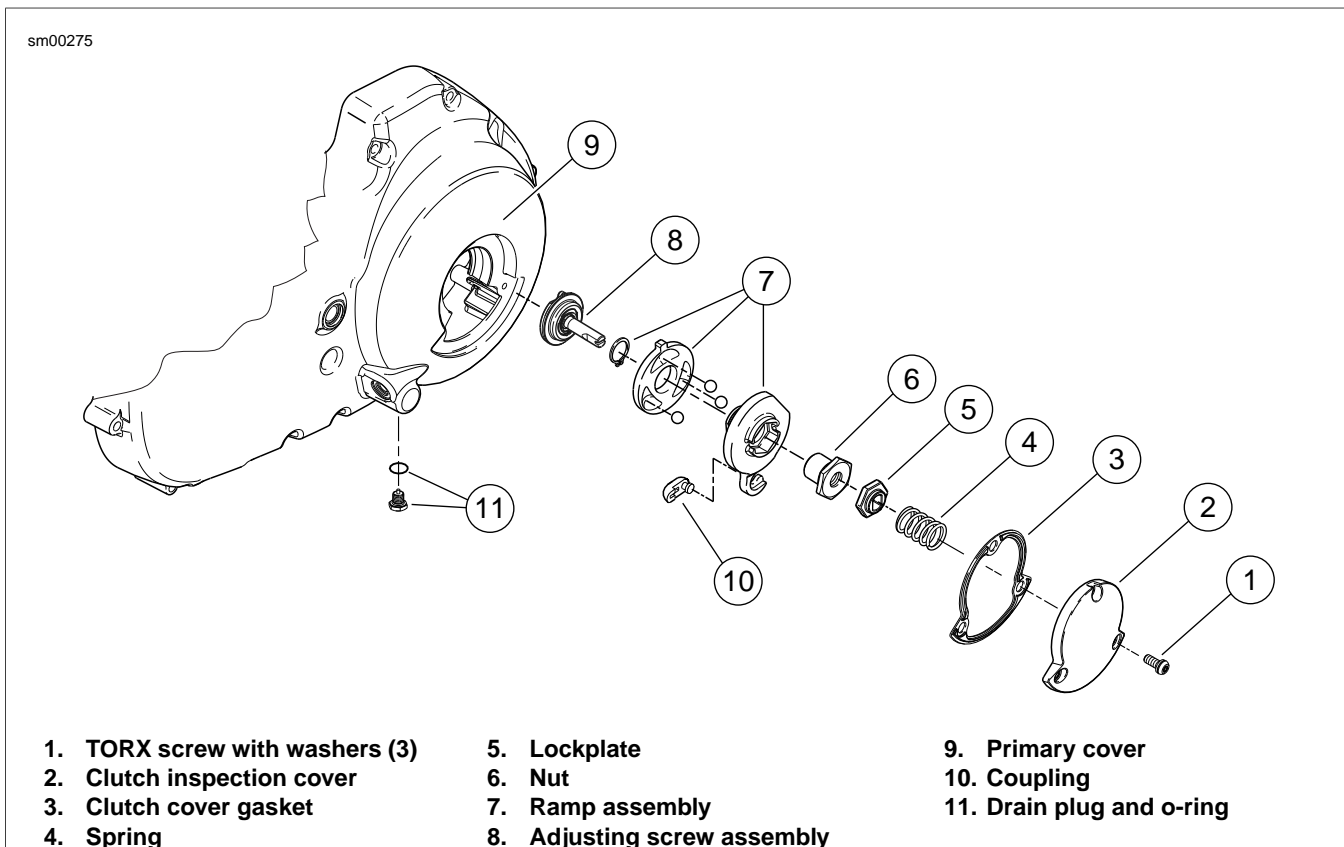

Figure 5-9. Clutch Release Mechanism
4. See Figure 5-9. Remove three TORX screws with washers (1) and clutch inspection cover (2).
5. Slide spring (4) with attached screw lockplate (5) from flats of adjusting screw.
6. Turn adjusting screw clockwise to release ramp assembly (7) and coupling (10). As the adjusting screw is turned, ramp assembly moves forward. Unscrew nut (6) from end of adjusting screw.
7. Remove hook of ramp from cable end coupling (10). Remove cable end from slot in coupling.
2. See Figure 5-9. Inspect three balls of release mechanism and ball socket surfaces of inner and outer ramps for wear, pitting, surface breakdown and other damage. Replace parts as necessary.